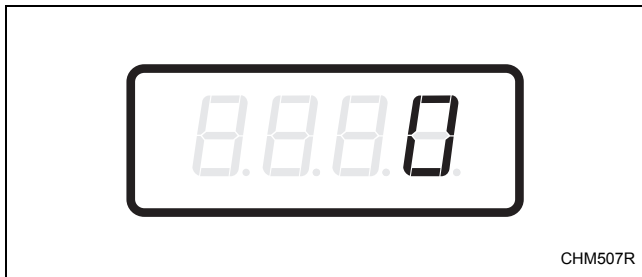

Figure 19
2. When “SA11” appears in the display, press the START (enter) keypad. There are five digits in the Special Vend A Vend Price #1. The fifth digit will appear in the display and will flash one second on and one second off. Refer to *Figure 19*.